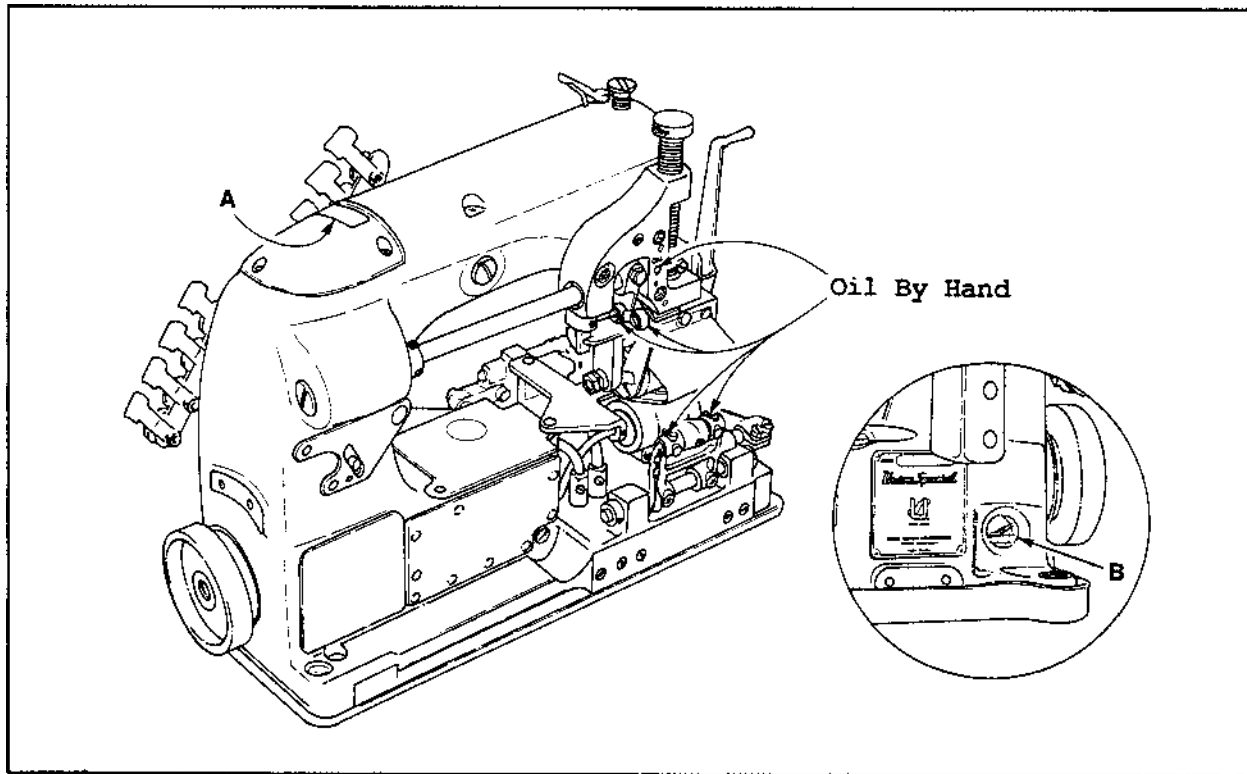

Fig. 1
Referring to Figure 1, fill the machine at (A) until the oil level is indicated between the red lines on gauge (B). Use a straight mineral oil, Saybolt viscosity of 90 to 125 seconds at 1000 fahrenheit. Run the machine slowly for a few minutes to allow the wicks to carry oil to the bearings. The puller drive shaft bushing and the puller connecting link must be oiled by hand.